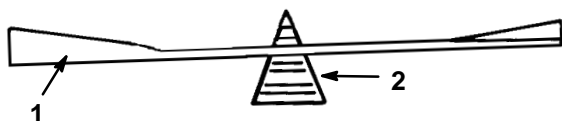

Figure 34
2. Check the balance of the blade by putting it on a blade balancer (Fig. 34). If the blade stays in a horizontal position, the blade is balanced and can be used. If the blade is not balanced, file some metal off the back side of the blade. Repeat this procedure until the blade is balanced.